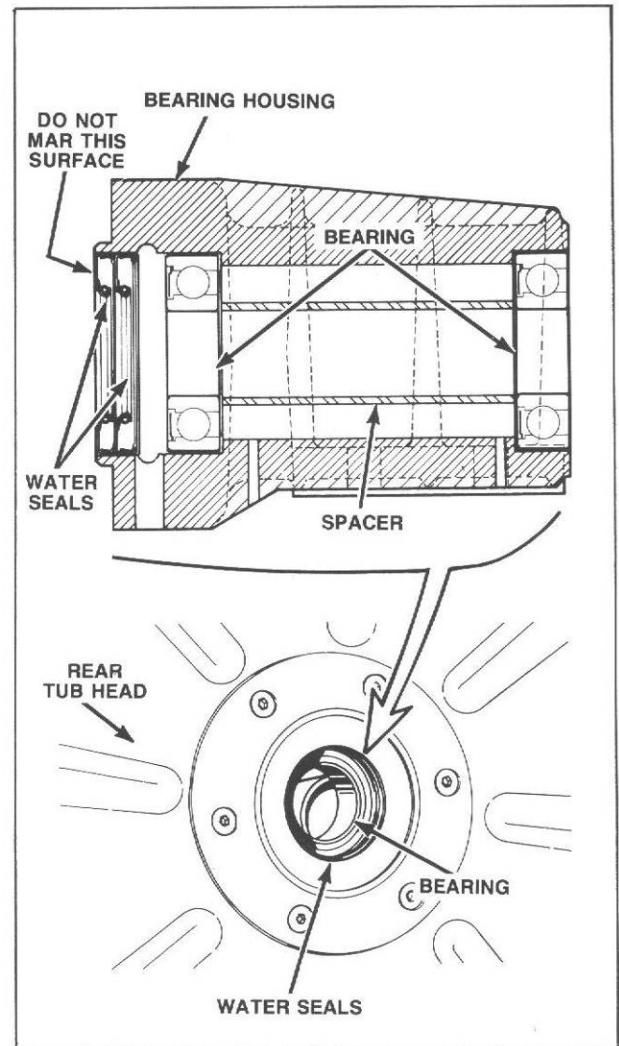

Figure 40
**36. REAR TUB HEAD** (*Refer to Figure 40*)
- b. Pry water seals out of bearing housing using pry bar, *Figure 40*.
**NOTE:** New seals should be installed with spring loaded lip facing in as shown in *Figure 40*.
**CAUTION:** Be careful when installing second water seal as not to mar the surface where the "V" ring seal contacts the water seal, *Figure 40*.